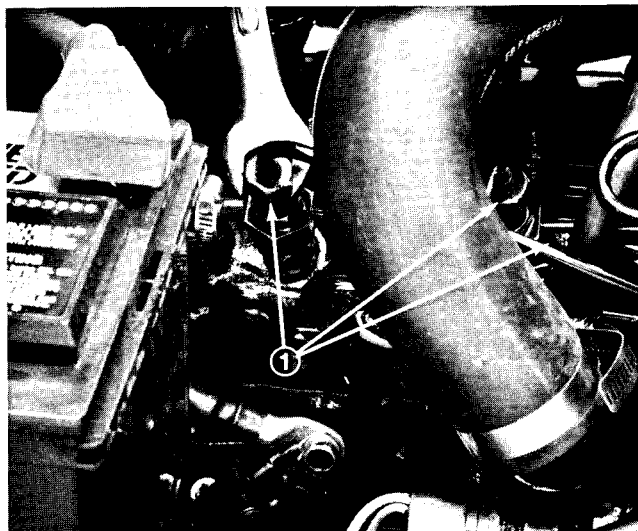

Figure 57
1. Loosen the pipe connection at the number one nozzle and holder assembly on the cylinder head (Fig. 57).